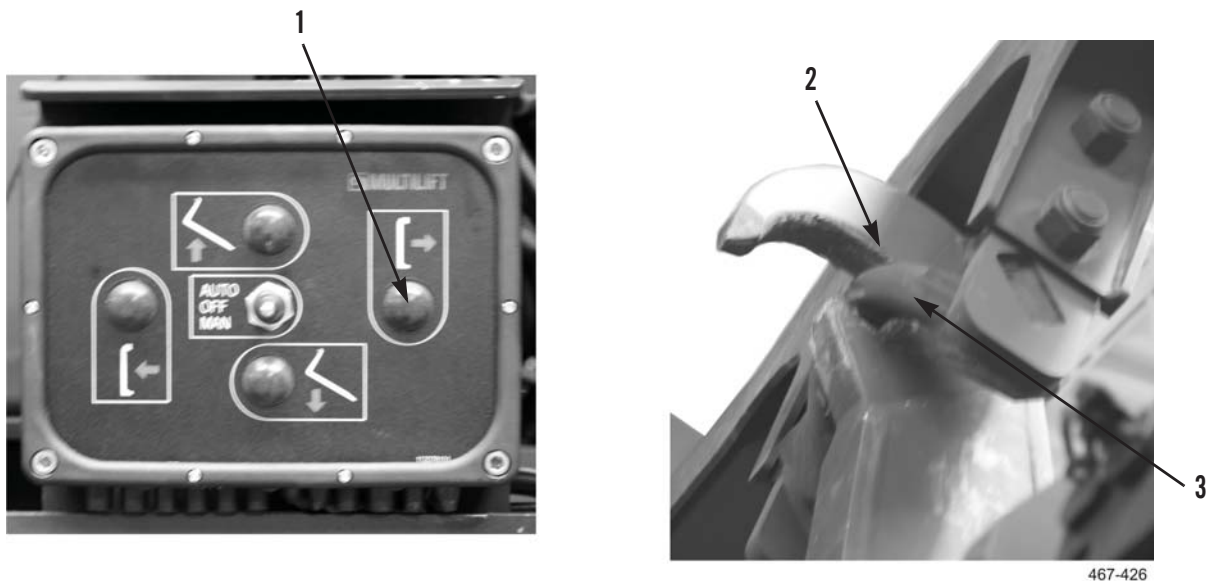

Figure 4. Bail Bar at Back End of Hook.
8. Press and hold UNSTOW button (Figure 4, Item 1) until bail bar (Figure 4, Item 3) reaches back end of hook (Figure 4, Item 2). Release UNSTOW button. Stowage guide is now in third calibration position.